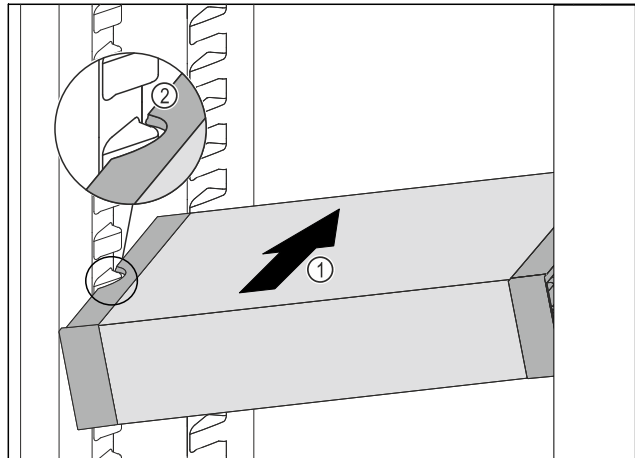

Fig. 31
- ▶ Insert the VarioSafe into the refrigerator compartment at an angle Fig. 31 (1) until the recesses in the side Fig. 31 (2) of the VarioSafe are at the level of the support rib in the refrigerator compartment.